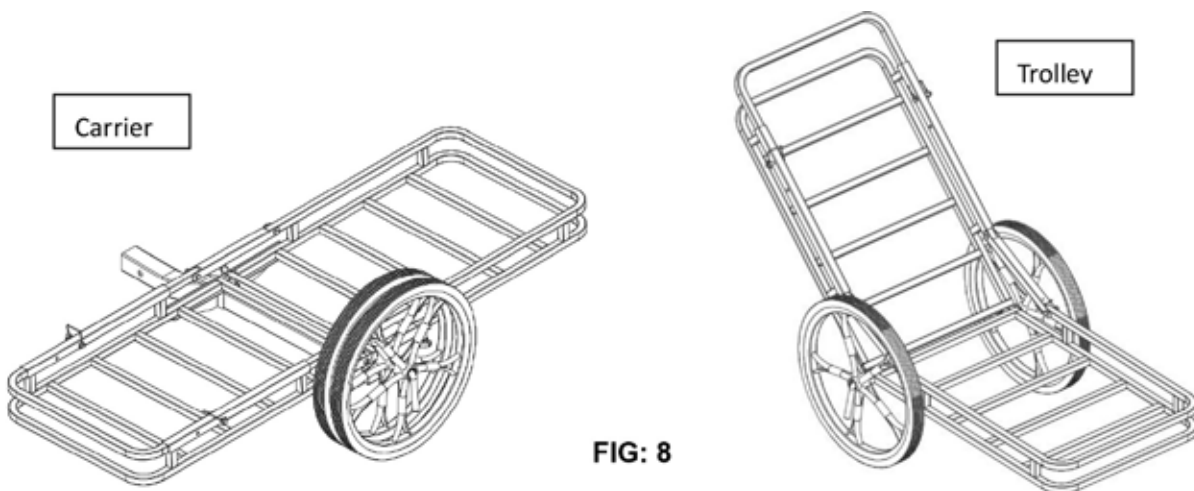

FIG: 8
8. Below are the carrier and trolley setups. See FIG 8.